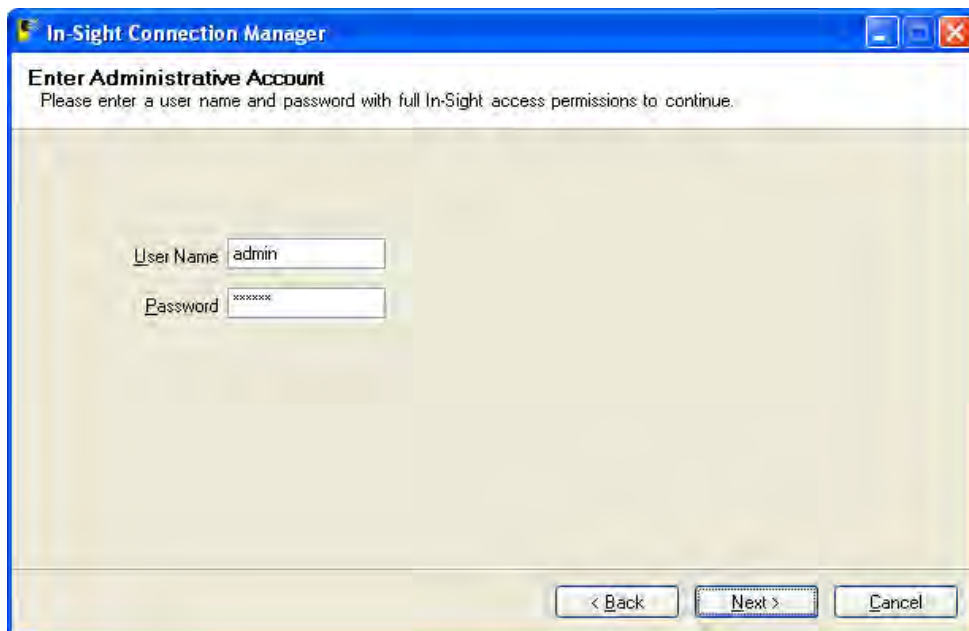

Figure 4-2: Administrative Account Dialog
5. You may need to supply administrative credentials (User Name and Password) for at least one In-Sight sensor on your network in order to proceed (Figure 4-2).